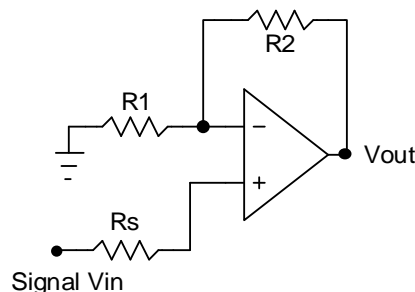

Figure 4. Non-Inverting amplifier circuit
- Modify the circuit to non-inverting amplifier circuit shown in figure 4. The resistors R1 and R2 should be the same value as in section 2.1. Based on the resistor values estimate the gain.